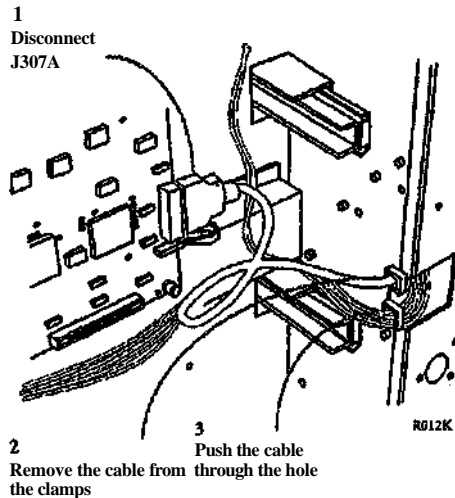

Figure 3. Disconnecting the Video Cable
9. (Figure 3): Disconnect the Video Cable Connector J307A from the Main PWB and push the connector through the hole in the frame.